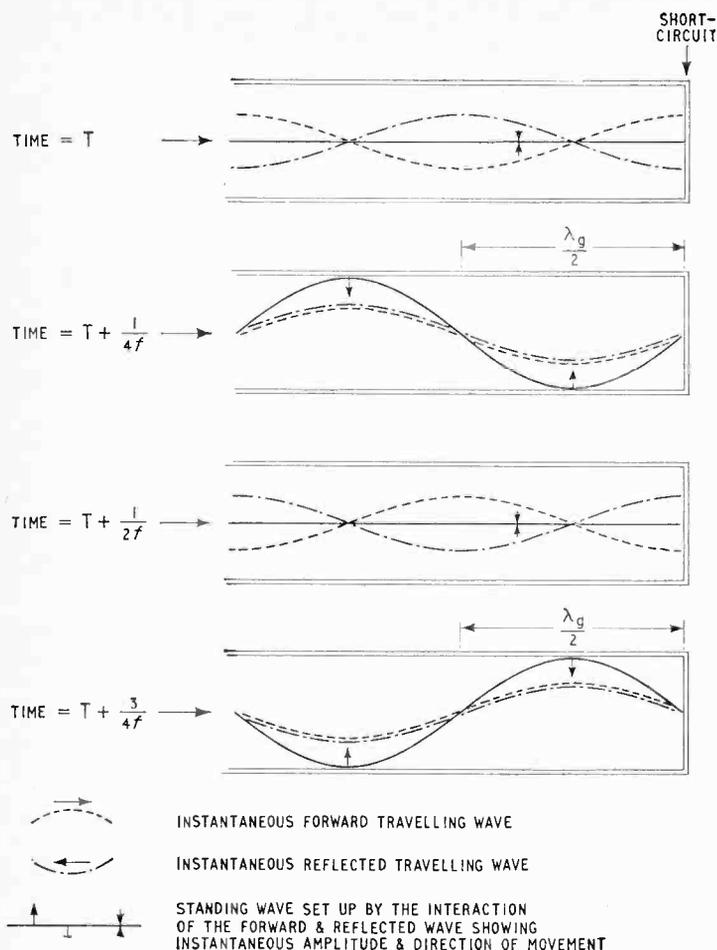

Fig. 5. Effect of reflections in a waveguide.
**Reflections and Standing Waves:**—If we consider a wave travelling down a guide and meeting a perfect short circuit, as no absorption takes place the wave will be reflected without attenuation and add algebraically with the original incident wave travelling up the guide. As shown in Fig. 5 the result will be a wave fixed in position but varying in amplitude at the frequency of propagation. This is termed a standing wave. If there is 100% reflection and no attenuation the maximum amplitude of the standing wave will be twice that of the incident wave. It will be readily seen that by accurately measuring the distance between two minima by methods to be shown in a later article, we have a convenient and very accurate method of measuring the guide wavelength. If we replace the short circuit with a discontinuity in the guide, say a poor flange connection, we will get a proportion of the incident wave reflected, the amount being proportional to the size, position, and composition of the reflecting surface. This will result in a standing wave of smaller amplitude. If the discontinuity is removed and replaced by a matched termination, a device which absorbs all the power fed to it, no reflection will occur and the amplitude of the standing wave will be zero.